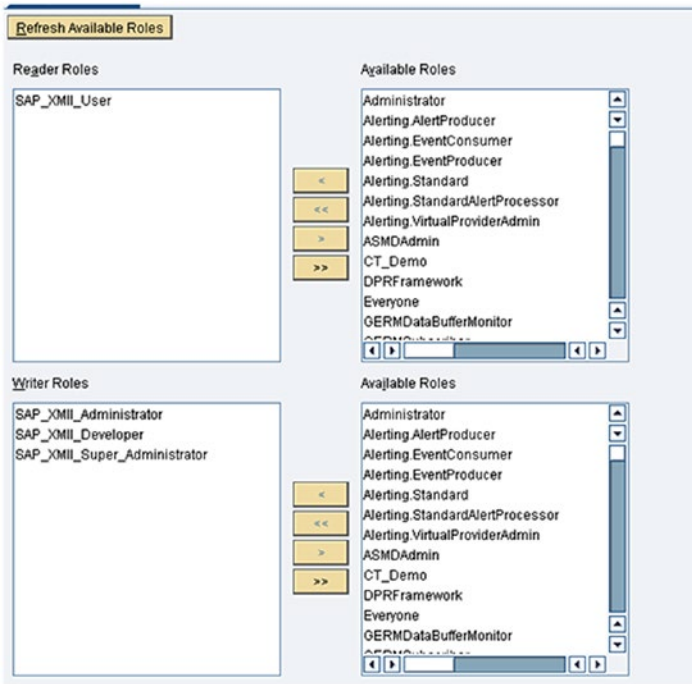

Figure 7-7. The MDO Security configuration
1. The Reader and Writer roles can be added as available in NetWeaver from the available roles drop-down, as shown in Figure 7-7.